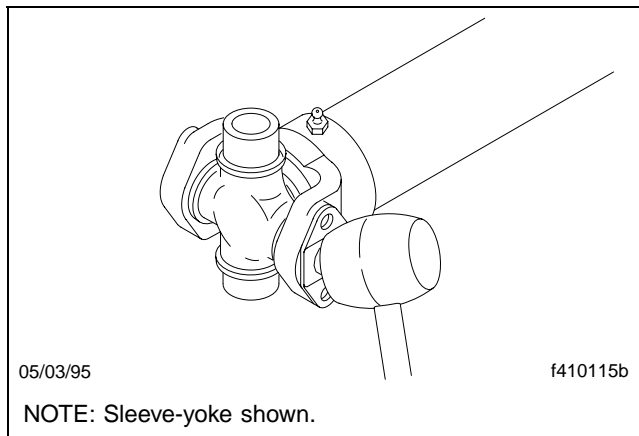

Fig. 5, Seat a U-Joint Bearing Cup in a Full-Round Yoke
- 15.3 By hand, press the bearing assembly flush with the face of the yoke. If the bearing assembly binds in the cross-hole, tap the *center* of the bearing plate with a rubber or rawhide mallet; do not tap the outer edges of the bearing plate. See **Fig. 5**.